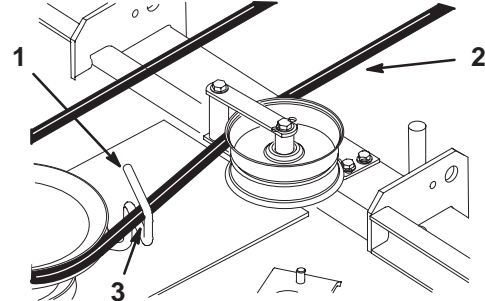

Figure 66
11. Rotate the belt guide, on rear of the mower, so it is 1/8-1/4 in. (3-7 mm) away from the vertical side of the PTO belt (Fig. 66).